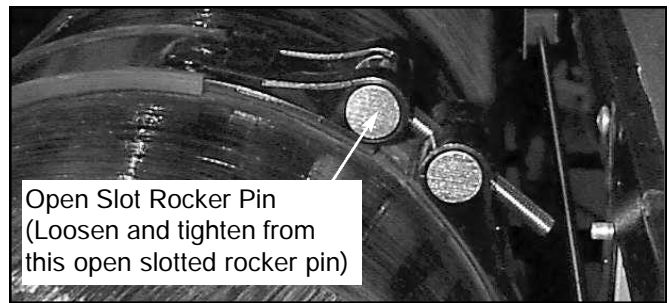

Figure 11-6 Strap Bolt Removal
7. Loosen and remove both strap bolts (Figure 11-6) if required. After removal, the rockers and bolts
8. Loosen and remove both strap bolts (Figure 11-6) if required. After removal, the straps, rubber, and bolts should be placed on a clean surface for re-use during installation. The 1/2" Nylok nuts should be replaced after removal.